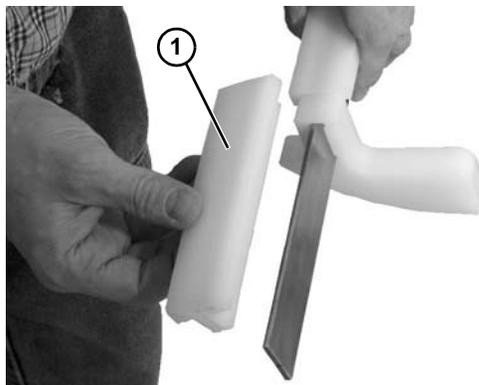

Figure 51
3. Remove and replace wear strips if worn (**Figure 51, item 1**).